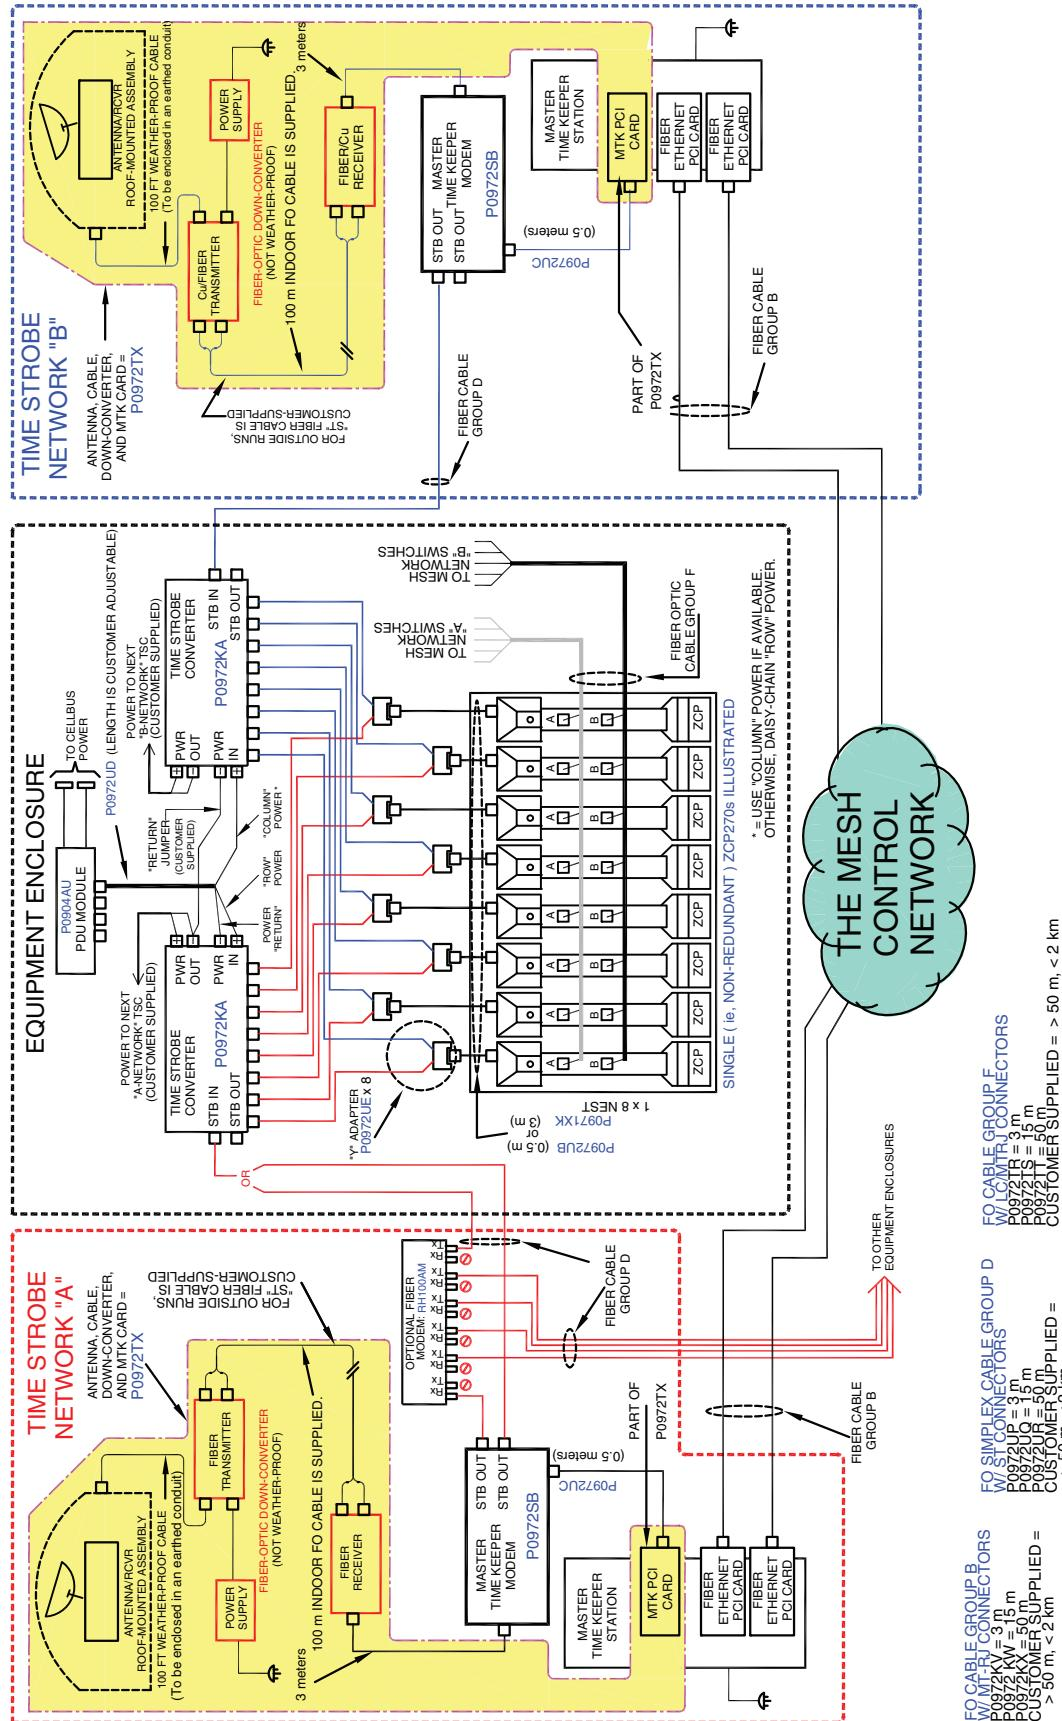

Figure A-7. ZCP270 with Fiber Antenna Connection, Redundant Cabling
- ◆ Extended Time Strobe Network - ZCP270 with Fiber Antenna Connection, Redundant Cabling (Figure A-7)